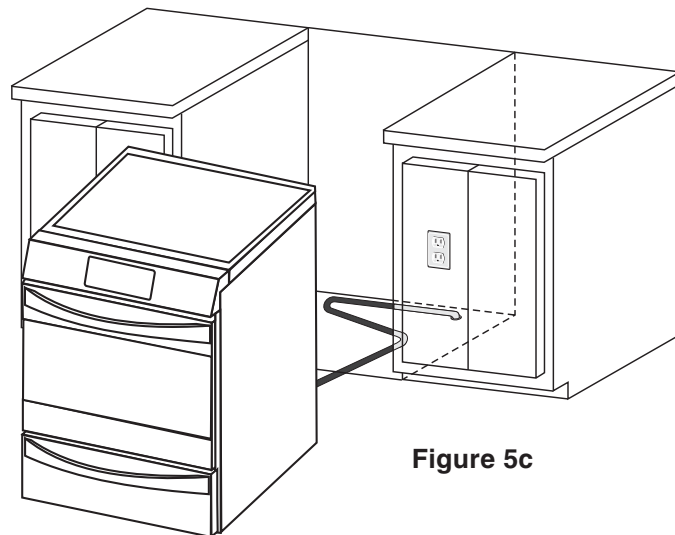

Figure 5c
- Form the gas flexible connector as shown on figure 5c. This will prevent the flexible connector from pinching or blocking the unit when you will push it back in its final position.